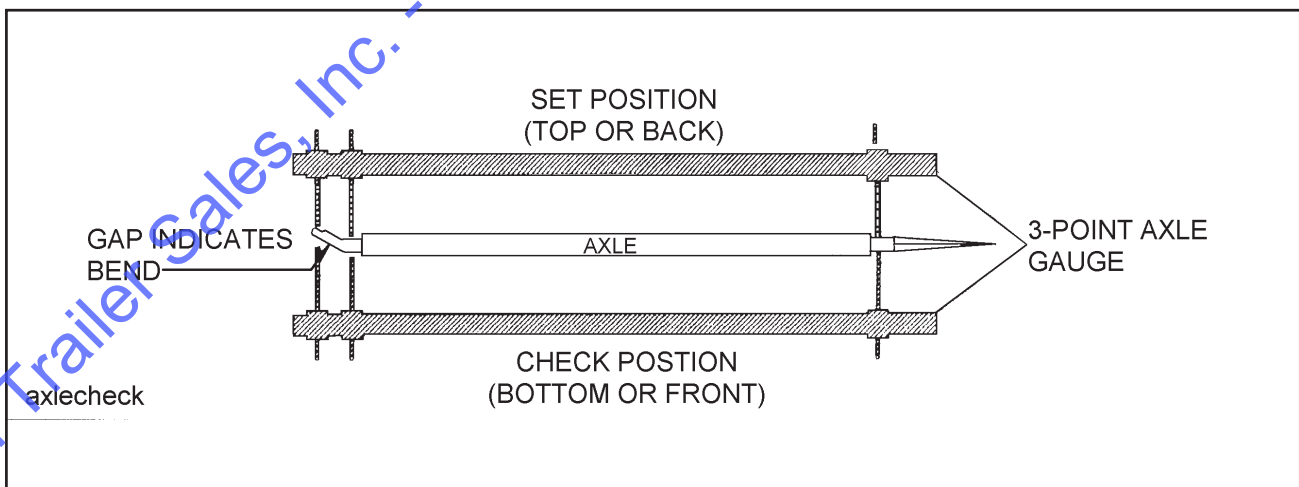

Figure 4-7 Checking Axle for Bend
- b. Place a 3-point axle gauge against the front side of the axle, and adjust each axle gauge point to the axle. (Double point end against the inner and outer wheel bearing surfaces of the spindle being checked and the other point on the inner bearing surface on the other spindle.) **(See Figure 4-7).**
- c. Move the axle gauge and place against the back side of the axle. If either of the points of double point end fails to touch the axle surface, a bent spindle is evident. A point gap of .015" or more is considered excessive tire "toe" and the axle must be replaced **(See Figure 4-7).**